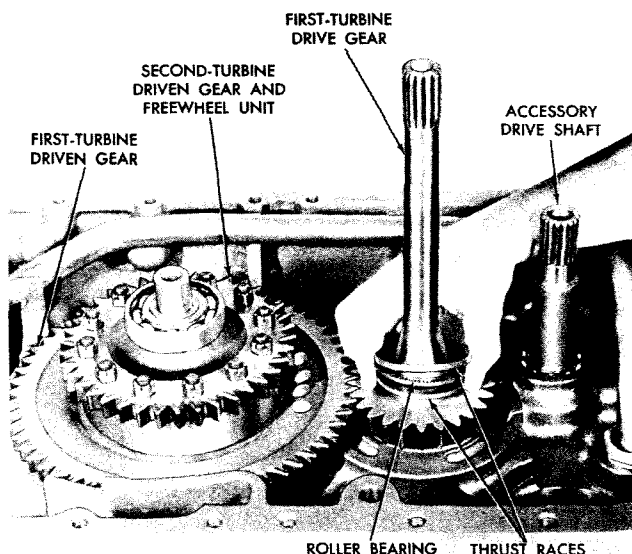

Fig. 7-17. Installing thrust washer and bearing onto first-turbine drive gear (-1 model)
(5) Install the assembled freewheel unit and converter driven gears (fig. 7-17).
(6) Install the thicker thrust race, roller bearing, and then the thinner thrust race, flat side first, onto the first-turbine drive gear (fig. 7-17). Install the step-joint sealring into the groove in the drive gear shaft. Refer to the note following c(1), above.